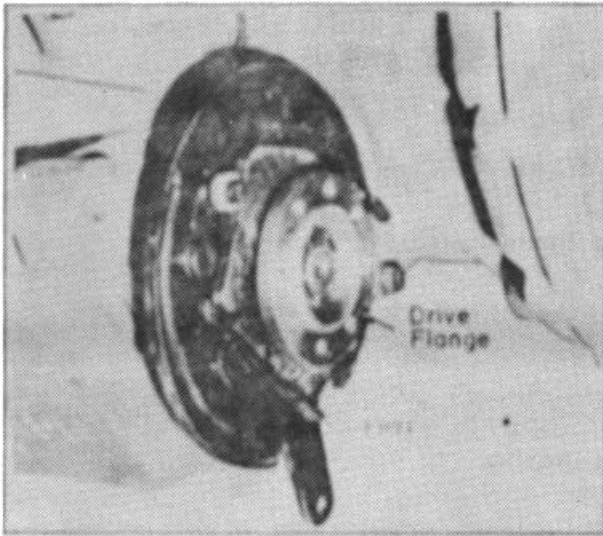
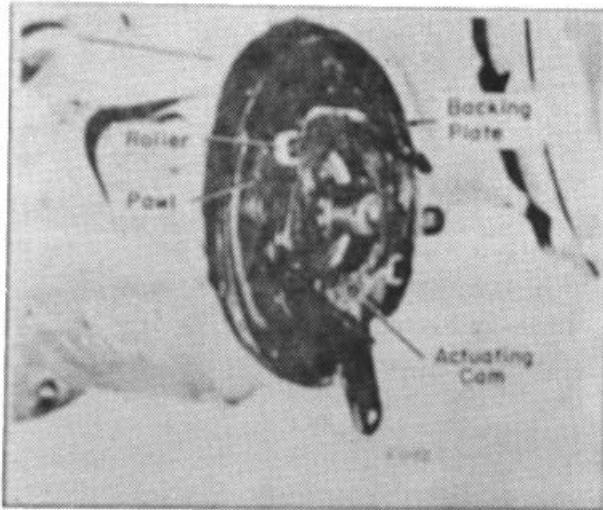

Figure 18.
Figure 19.
5. Remove flange (Fig. 18) from transmission output shaft when it is necessary to remove cam (Fig. 19) or front transmission seal.